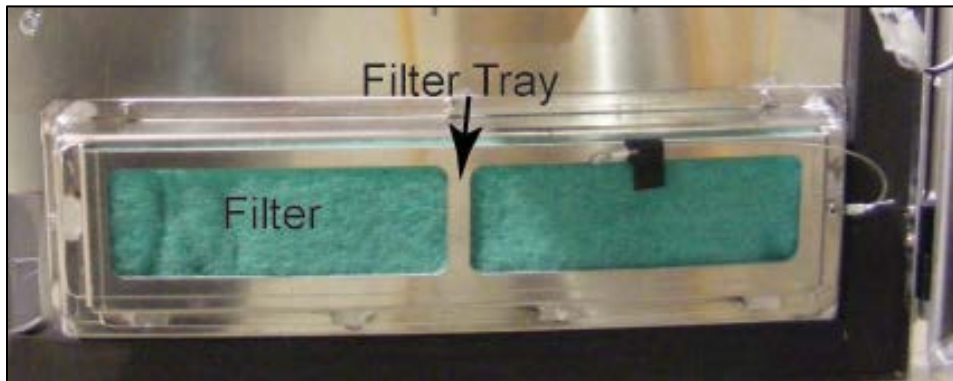

Figure 23: Enclosure Door Filter
1. Lift the existing filter out of the filter tray. Refer to **Figure 23**.